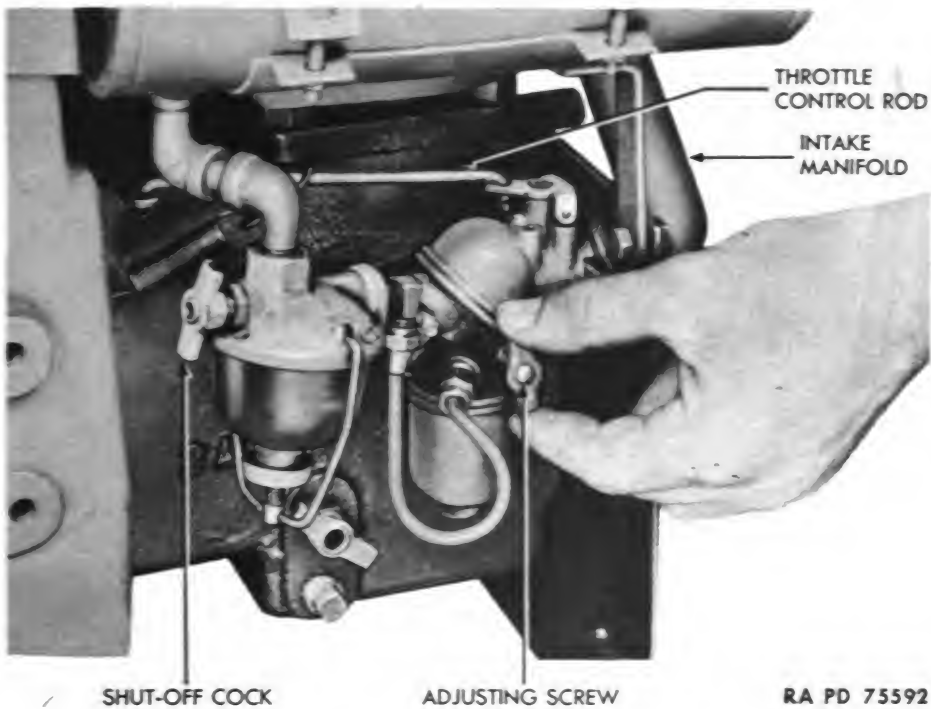

Figure 80 — Adjusting Diaphragm Pump Engine Carburetor
- (1) ADJUSTMENT OF CARBURETOR (fig. 80).
(1) Place engine on frame to rear of normal position. Push engine forward, toward gear box, until splined shaft is engaged and the hold-down bolt holes of engine and frame are alined.
(2) Install the four cap bolts, lock washers, and nuts which secure engine to frame.
(3) Install the three lock washers and cap screws which secure engine to gear box.
g. Removal of Carburetor (fig. 80).
(1) Disconnect throttle control rod from carburetor. Use pliers to remove cotter key.
(2) Turn off shut-off cock on fuel filter and disconnect gasoline line from carburetor.
(3) Remove the two carburetor-to-manifold stud nuts and lock washers.
(4) Lift carburetor and gasket from intake manifold.
h. Installation of Carburetor (fig. 80).
(1) Place gasket and carburetor in position on intake manifold, and install the two carburetor-to-manifold lock washers and stud nuts.
(2) Connect throttle control rod to carburetor throttle lever. Use new cotter key.
(3) Connect gasoline line to carburetor.
(4) Open shut-off cock on fuel filter and inspect installation for leaks.